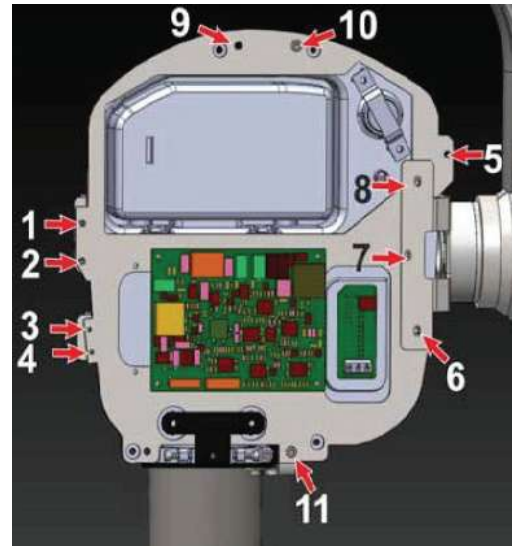

Figure 91
- To remove the HV Tank from the clamp, remove the 5 no's of (M3X6 Hex. socket button head) screws (from 1 to 5 as shown in Figure 91) using 2mm allen key.
- Remove 3 no's of (M3X6 Hex. Soc. Head cap) Screws (From 6 to 8 as shown in Figure 91) on the top of the clamp near Tube Head arm using 2.5mm allen key.
- Remove 3 no's of (M3X14 Hex. Soc. head cap) screws (from 9 to 11 as shown in Figure 91) along with M3 plain washers & M3 nut using 2.5mm allen key and 5.5mm Nut driver.
- Using 2.5mm allen key & 5.5mm nut driver fix 3 no's of Hex. Soc. head cap screws(M3X16) with M3 plain washers & M3 nuts (at the locations 9 to 11 as in Figure 91) such that the screw along with M3 plain washer should be inserted from bottom and nut along with M3 plain washer should be on the top of the HV Tank.
- Fix 5 no's of button head screws(M3X6) using 2mm allen key(at the locations 1 to 5 as in Figure 91).
- Fix 3 no's of Hex. Soc. Head cap screws(M3X6) on the top of the clamp near Tube Head arm at the locations (6 to 8 as in Figure 91) using 2.5 mm Allen key.